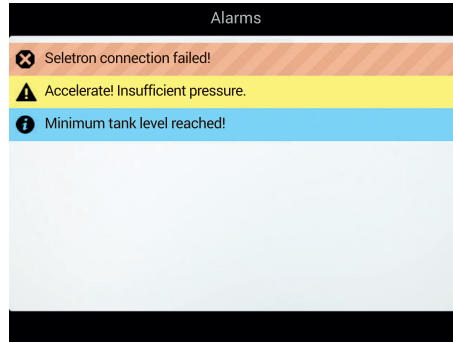

Fig. 323
- 2 Press **F 1** to view the **Info / Alarms** menu (Fig. 323). This screen gives an overview of the active notifications for the operator, rated by importance as **Critical alarms**, **Low priority alarms** and **Info**.